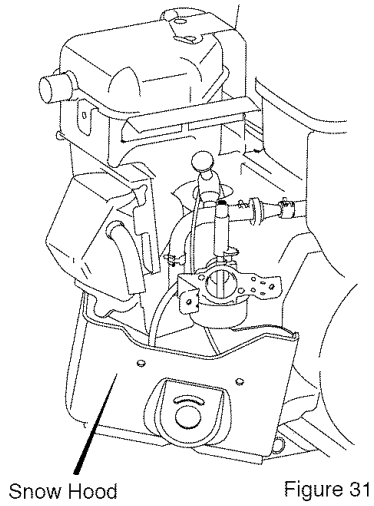

Figure 31
4. Slowly remove the snow hood (see Figure 31). Make sure that the primer button hose and the ignition wire are not disconnected.